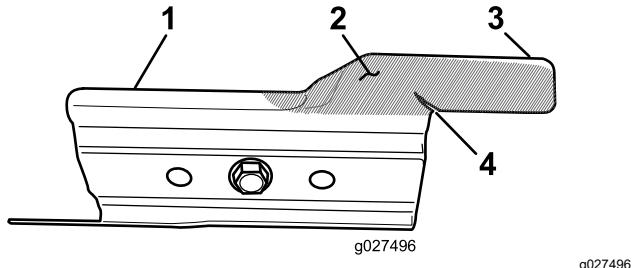

Figure 25
Carefully examine the accelerator for excessive wear (Figure 25). Because sand and abrasive material can wear away the metal (especially in the area shown as item 2 in Figure 25), check the accelerator before using the machine. If you notice that a tab on the accelerator has been worn down to a sharp edge or there is a crack, replace the accelerator.